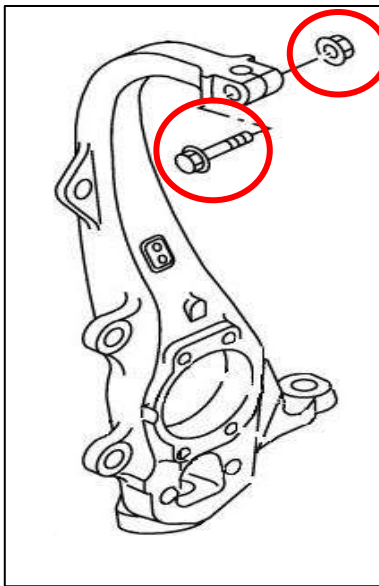

Figure 2
9. Remove the nut and bolt securing the OEM FUCA to the Steering Knuckle. *Figure 2.*